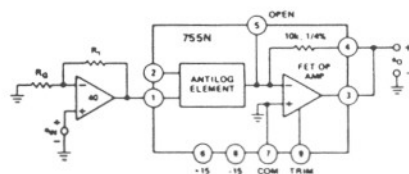

Figure 6. Method for Adjusting  $K < 2/3V$
**Scale Factor (K) Adjustment** — The scale factor may be adjusted for all values of  $K$  greater than 2/3V by the techniques described in the log section. If a value of  $K$ , less than 2/3V is desired for a given application, an external op amp would be required as shown in Figure 6. The ratio of the two resistors is approximately: